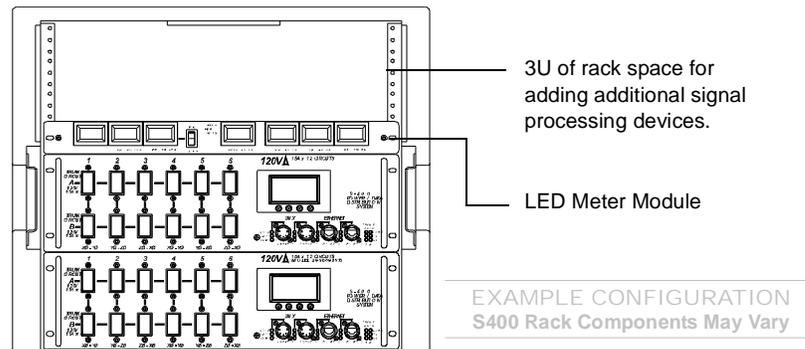

Figure 2-6: Additional Rack Space
- Step 1. Install Ethernet Switch as required in top portion of rack chassis (**Figure 2-6**).